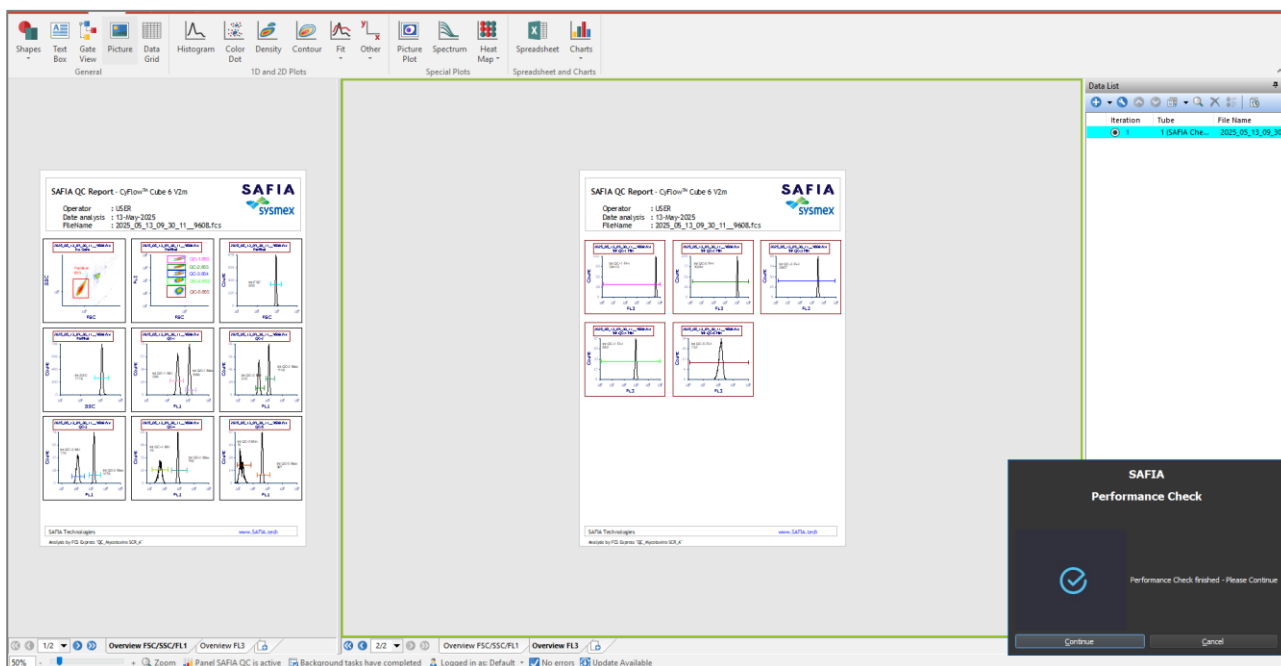

Figure 7. Display of the .fcs data in FCS Express
3. When the measurement is complete, the *FCS Express* programme opens automatically. The plots and histograms described above are displayed on the left-hand side, while the .fcs file used is visible on the right-hand side in *Datalist* (see Figure 7). If the correct data is not loaded automatically, please refer to the instructions in section 10.4.